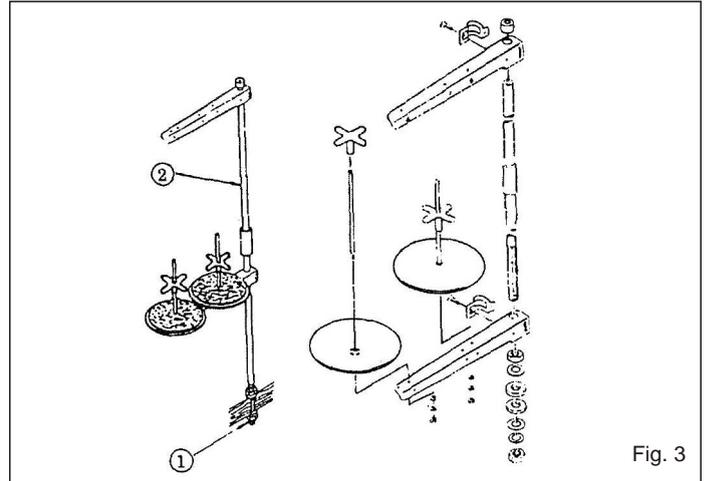

Fig. 3
3. AJUSTE DA BRAÇADEIRA DO CABEÇOTE DA MÁQUINA (Fig. 3)